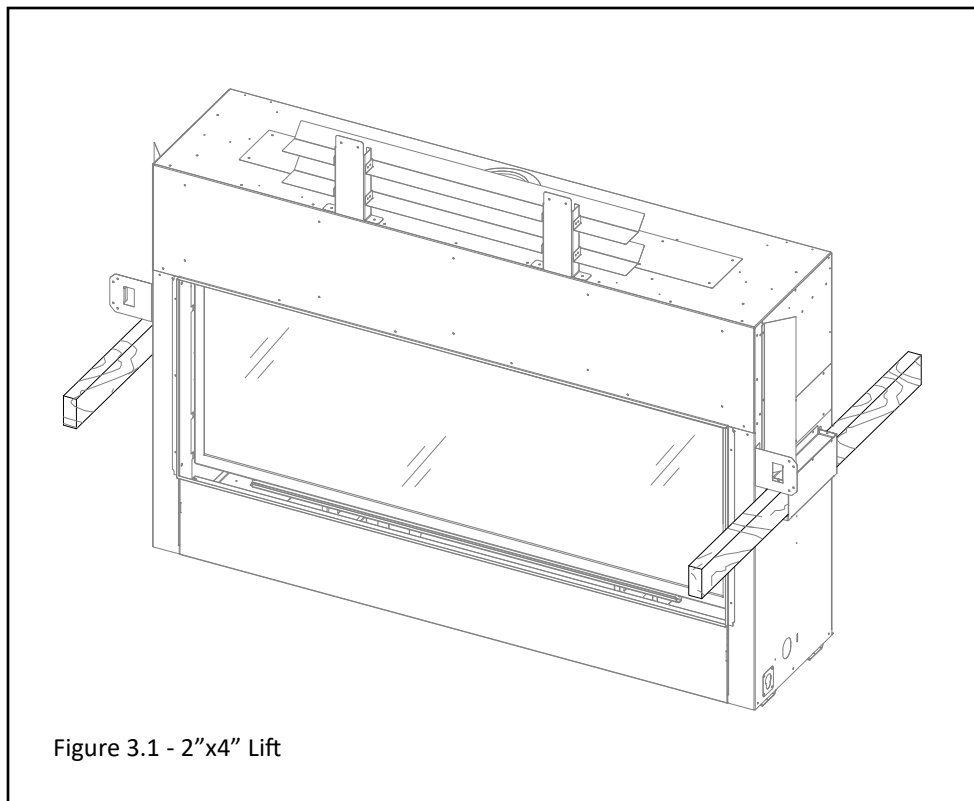

Figure 3.1 - 2"x4" Lift
On both sides of the appliance, there are lift handles that allow a hand lift (no sharp edges), or allow a 2" x 4" piece of lumber to be inserted inside the lift handles, as shown in FIGURE 3.1.
2. Attach the top stand-off brackets with (4) screws to the top of the fireplace as shown in Figure 3.1.
4. Attach the horizontal heat shields to the top stand-off brackets with the (8) screws as shown in Figure 3.1.